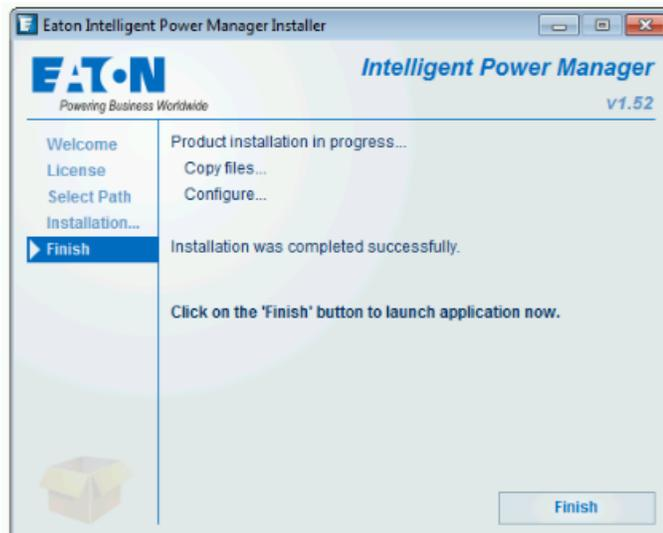

Figure 5. Finish Screen
5. Click Finish (see Figure 5). The application launches and the Login screen displays.